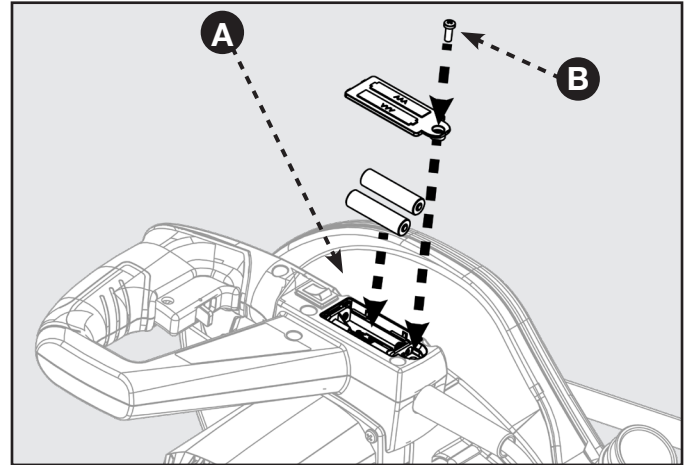

FIGURE 9
1. The battery compartment (A) is located in the control arm on the rear of the saw. See Figure 9.
2. Using the Phillips end of the supplied blade wrench, remove the screw (B) securing the compartment cover and lift off the cover.